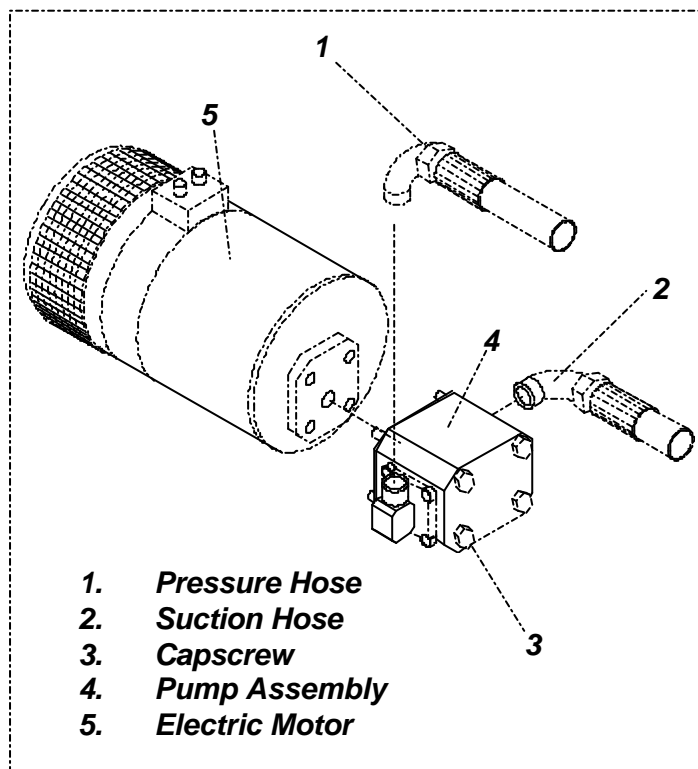

Figure 4-10: Hydraulic Pump
4.9 Hydraulic Pump (Figure 4-10)